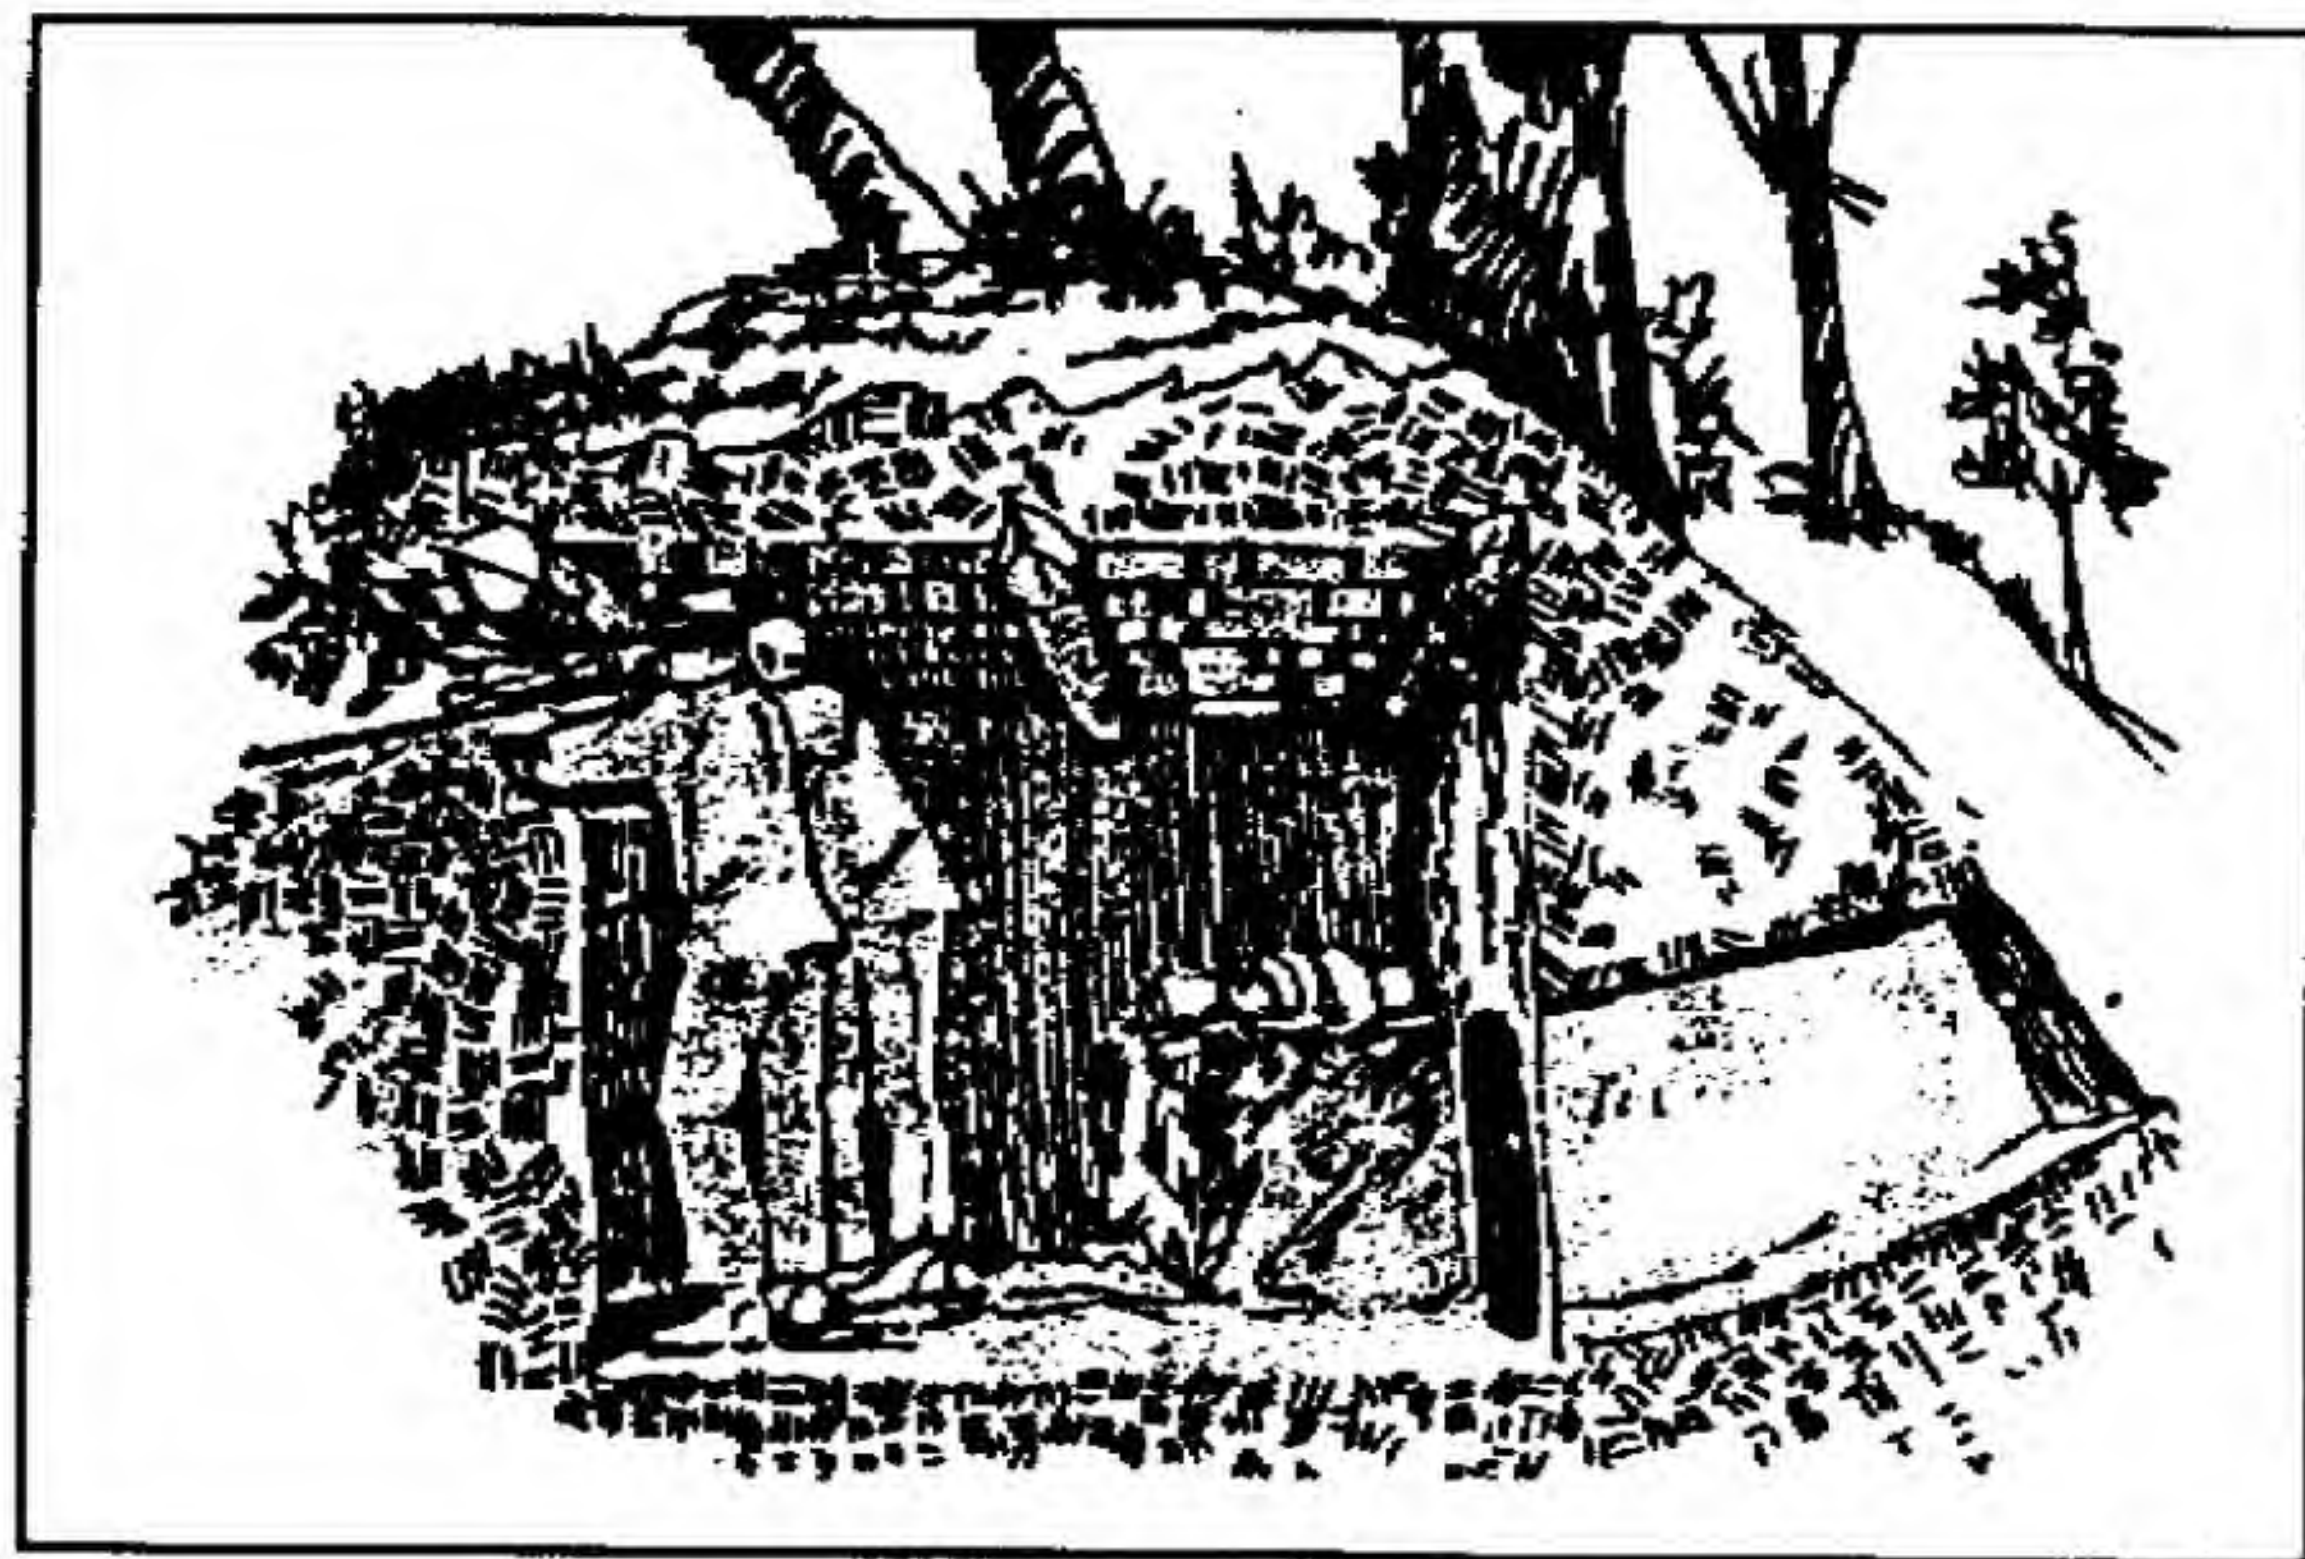

Figure 4-12. Semipermanent hide position.
f. **Semipermanent Hide.** The semipermanent hide (Figure 4-12, page 4-22) is used mostly in defensive situations. This position requires additional equipment and personnel to construct. However, it allows sniper teams to remain in place for extended periods or to be relieved in place by other sniper teams. Like the belly hide, this position can be constructed by tunneling through a knoll or under natural objects already in place. The semipermanent hide is characterized by the following:
(1) Advantages: